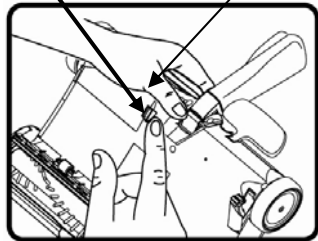

Fig. 4
3. Push in locking tab and lift off battery compartment cover. (Fig. 4 & 5)